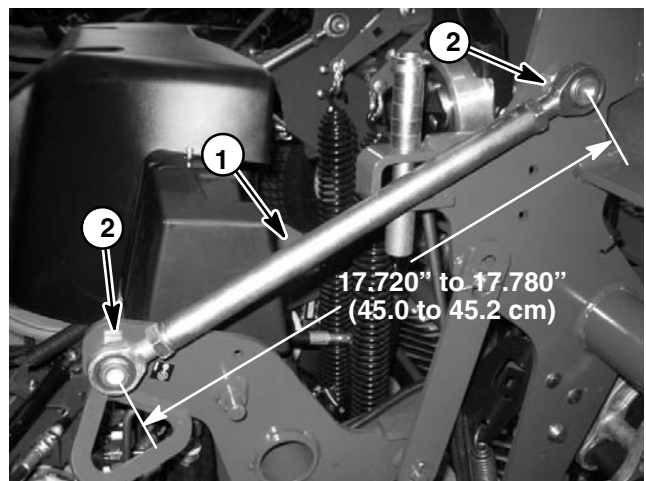

Figure 26
1. If upper links were disassembled, install rod ends equally to make link assembly 17.720" to 17.780" (45.0 to 45.2 cm) long (rod center to rod center) (Fig. 26).